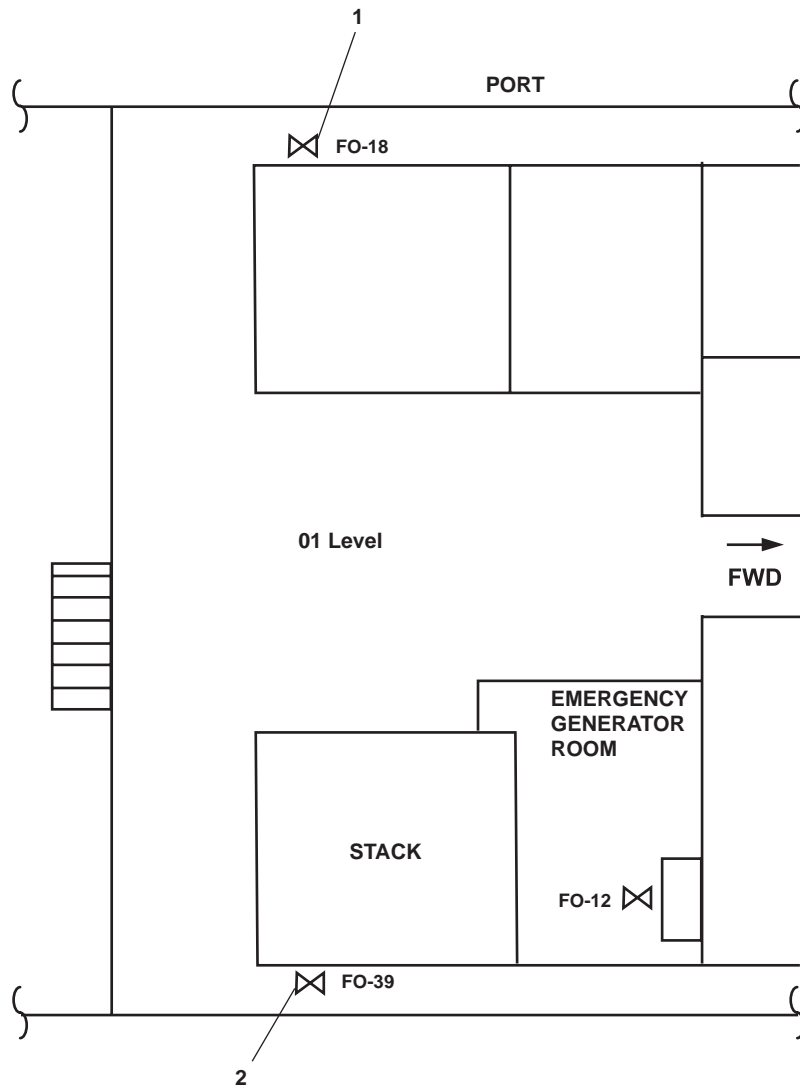

Figure 4. Fuel Oil Supply Line Connection Locations
- a. FO-18, F.O. FILL CONN PORT (figure 4, item 1).
- b. FO-39, F.O. FILL CONN. STBD (figure 4, item 2).